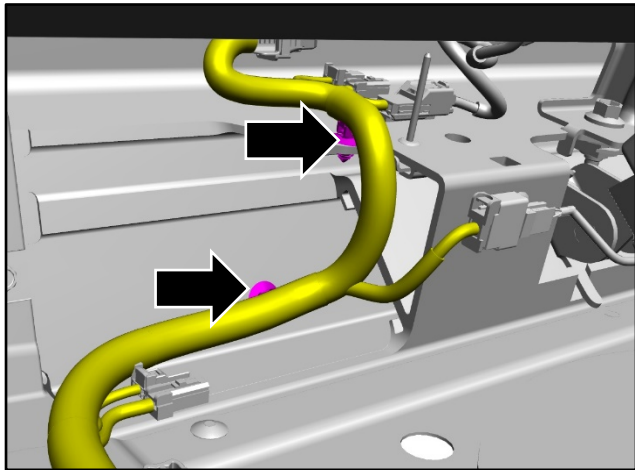

Figure 2
3. Release the wiring harness (refer to Figure 2).